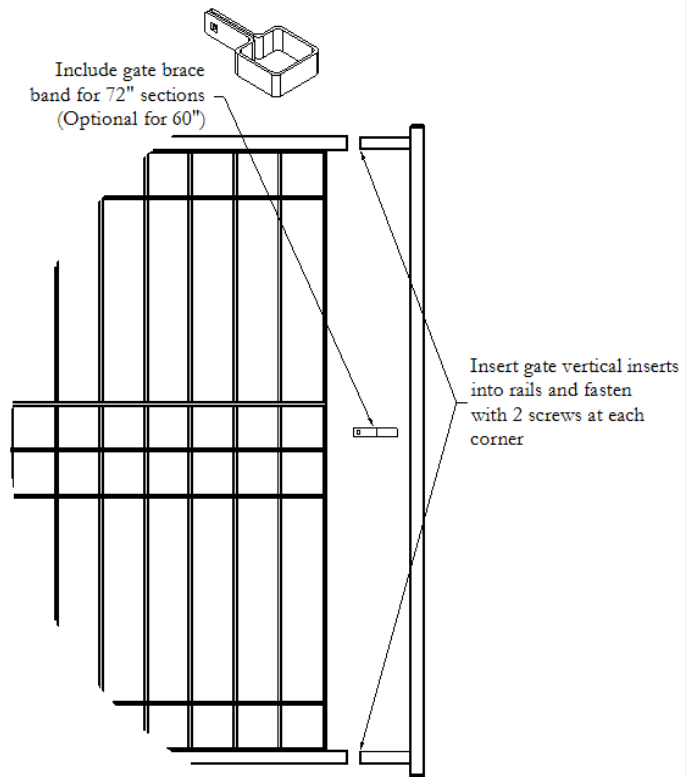

FIGURE 4
2. Attach the verticals of the gate by inserting them into the horizontal rails of the section and fastening with two self-drilling screws at each corner. For 72” high gates, brace bands have been provided for additional horizontal support (optional for 60” height). Add these to the gate heights before insertion into rails. (See Figure 4.)